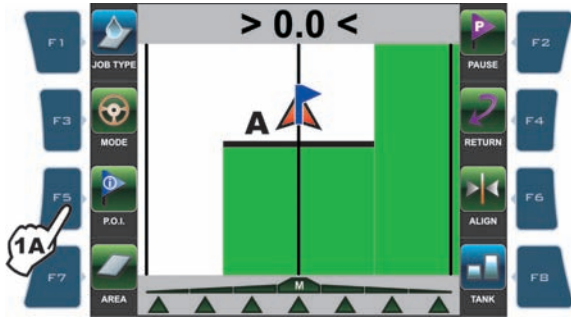

Fig. 240
13.1.6 Save one "P.O.I."  on display (Fig. 240 and 241). More points can be marked.
1a Press **F5** when you are in the position to be stored: flag will be positioned at that point (**A** in Fig. 240).